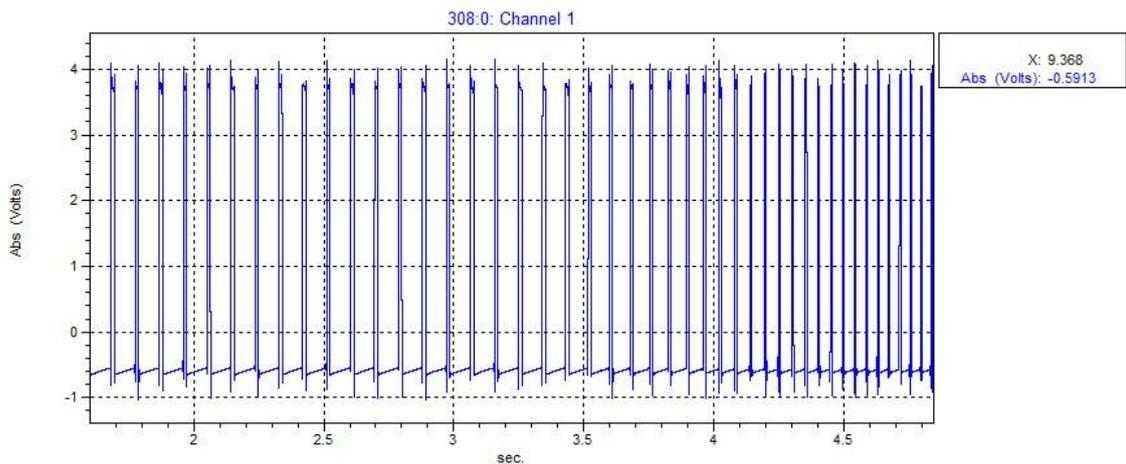

Figure 11: Zoomed area of Channel 1
3. The plot redraws itself to the selected area when you release the mouse button and will look similar to Figure 11. Note the signal amplitude is from -0.5 to 4 Volts.